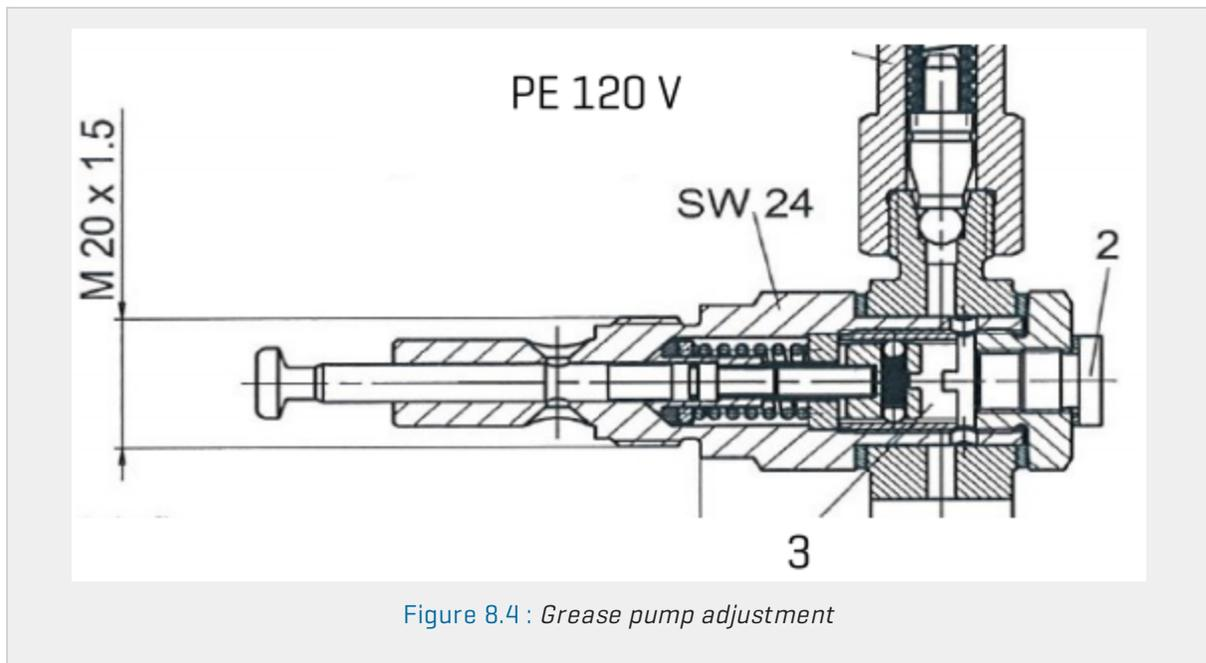

Figure 8.4 : Grease pump adjustment
Remove plug item 2, [Figure 8.4] to get access to adjusting screw [3]. By turning the screw clockwise, the amount is reduced. 1/2 turn on the adjusting screw reduces the grease added by 0,013cm³. Please contact Orkel Compaction if you have any questions.